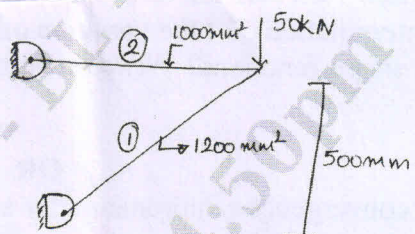

Fig.Q7
- 7 For the two bar truss shown in Fig.Q7 determine the nodal displacement and the stress in each member. Also find the support reaction.  $E = 2 \times 10^5 \text{ N/mm}^2$ . (20 Marks)